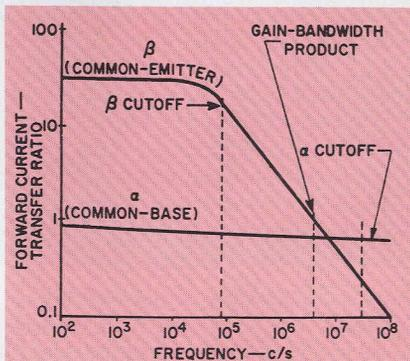

Figure 2: Forward current-transfer ratio as a function of frequency.
2. *AC beta is a function of frequency.* Shown in Figure 2 are the frequency limits for the AC beta of a transistor. The gain-bandwidth product is the frequency at which the beta is equal to unity, and indicates the approximate useful frequency range of the device. The frequency-cutoff point is the frequency at which the alpha (common-base forward current-transfer ratio) drops to 0.707 times its 1-kHz value. These cutoff points vary widely with transistor types. In many consumer applications, transistors are now operating at frequencies up to 1,000 MHz. Significant tests of the frequency characteristics require elaborate RF measuring facilities. Consequently, it is not practical to include them in service-type transistor testers. It is apparent that an AC-beta tester which uses only a 60- or 1,000-Hz test signal cannot provide a significant indication of transistor performance at RF, VHF, or UHF frequencies.